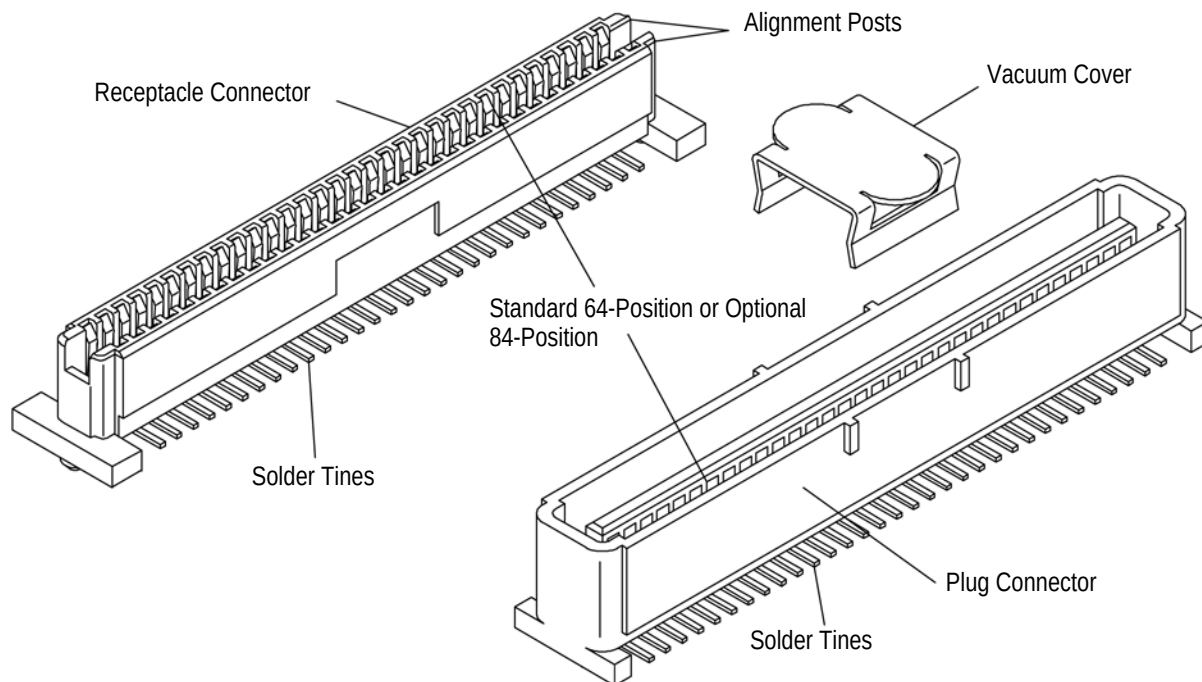

Figure 1
- 1 P.C BOARD HOLE LAY-OUT AS SHOWN FIG. 1
When corresponding with personnel, use the terminology provided in this specification to facilitate your inquiries for information. Basic terms and features of this product are provided in Figure 1.